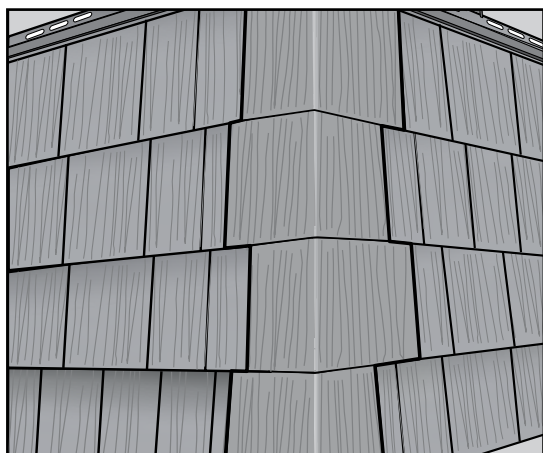

figure 12
4. Continue installing the corner pieces as you move up the wall. Following the pattern of A, B, C, D and then repeat (*figure 12*).